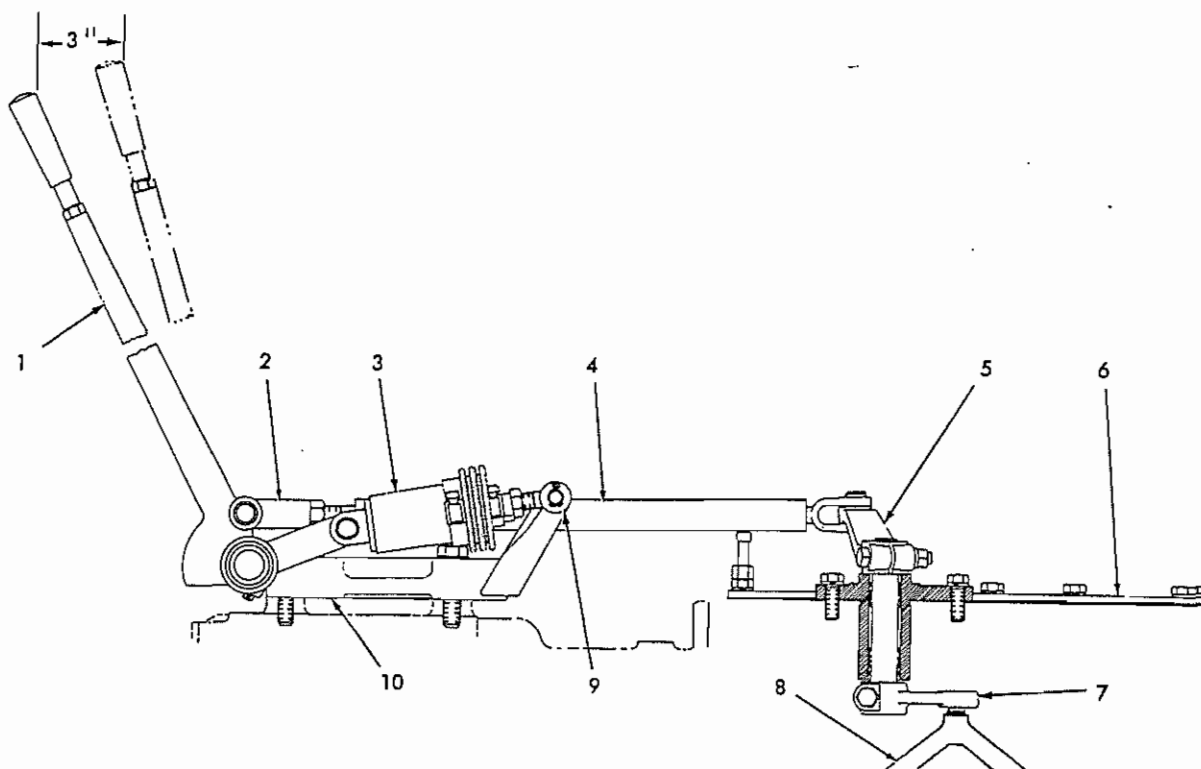

Fig. 21 -- HD11 (Prior To S/N 6069) Steering Control Linkage
Refer to Fig. 21 and adjust length of steering control rod (4) to obtain 3" free travel at top of steering lever (1); adjust length of rod by turning front yoke (2). Subsequent adjustments should be made when free travel diminishes to 1". When all adjustment in control rod (4) has been used, and free travel has diminished to 1", steering clutches need rebuilding. Adjust booster eye (9) to obtain proper "over-center" action.